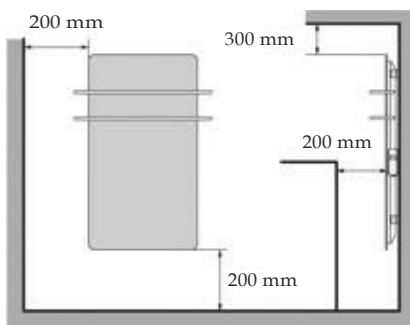

Figure 1-1
1. If to install the product on the wall, please keep the distance from the wall surface as shown in the following Figure 1-1.